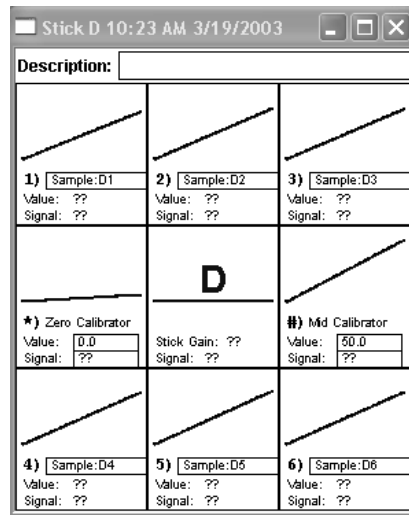

Figure 4-15: The Stick Display Window for a Stick That Has Been Read
- 12) The stick is displayed with the kinetic plots and the signals for each sample and calibrator position (Figure 4-15). If a standard curve has been loaded, then the value and stick gain fields will be completed by the software.